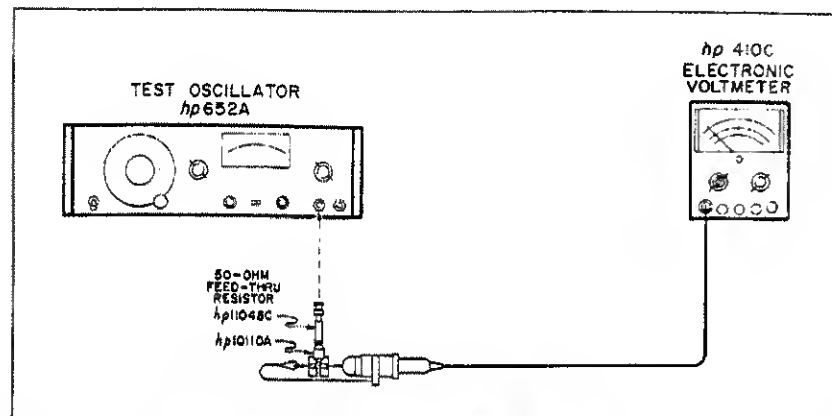

Figure 5-2. Low Frequency Response Test.
- Connect Model 410C as shown in Figure 5-2.